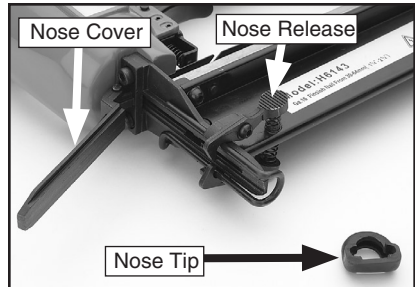

Figure 7. Nose opened to clear a jam.
4. Open the nailer nose by removing the rubber nose tip, squeezing the nose release mechanism (**Figure 7**), and opening the nose cover.